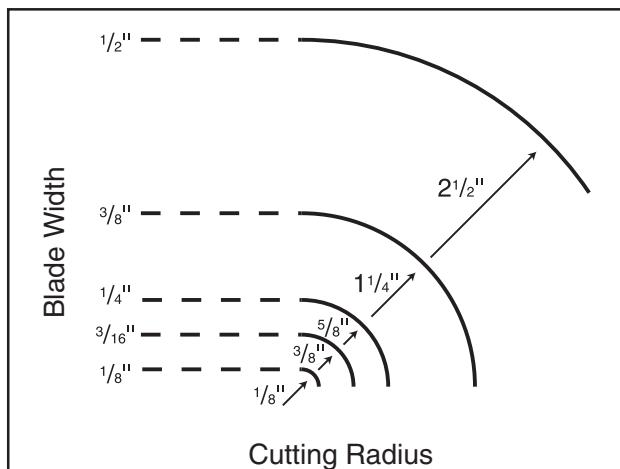

Figure 69. Blade width radii.
- Curve Cutting:** Use the chart in **Figure 69** to determine the correct blade for curve cutting. Determine the smallest radius curve that will be cut on your workpiece and use the corresponding blade width.